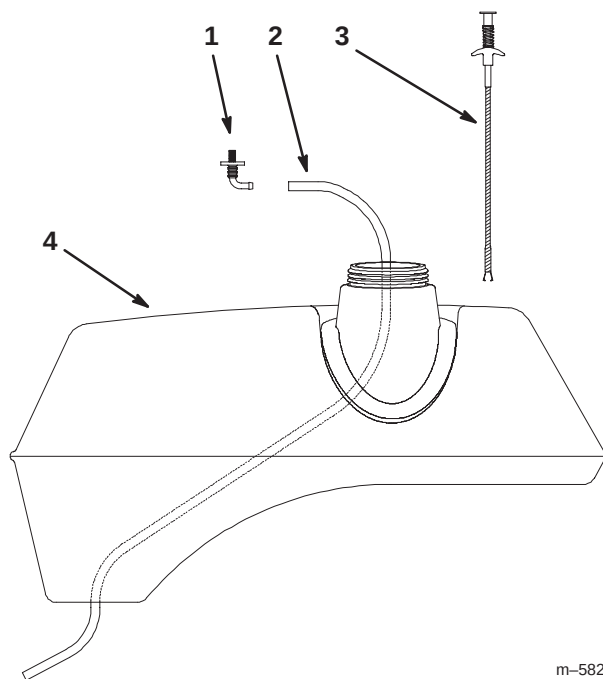

Figure 3
1. Push the installation hose up through the bottom hole in the fuel tank (Fig. 3).
2. Using the grab tool, reach down through the filler neck and pull the hose up through the filler neck (Fig. 3).
4. Attach the installation hose onto the elbow of the bulkhead fitting (Fig. 3).
5. Pull the hose and bulkhead fitting back down into the fuel tank. Pull the hose until the elbow is through the bottom hole (Fig. 3).